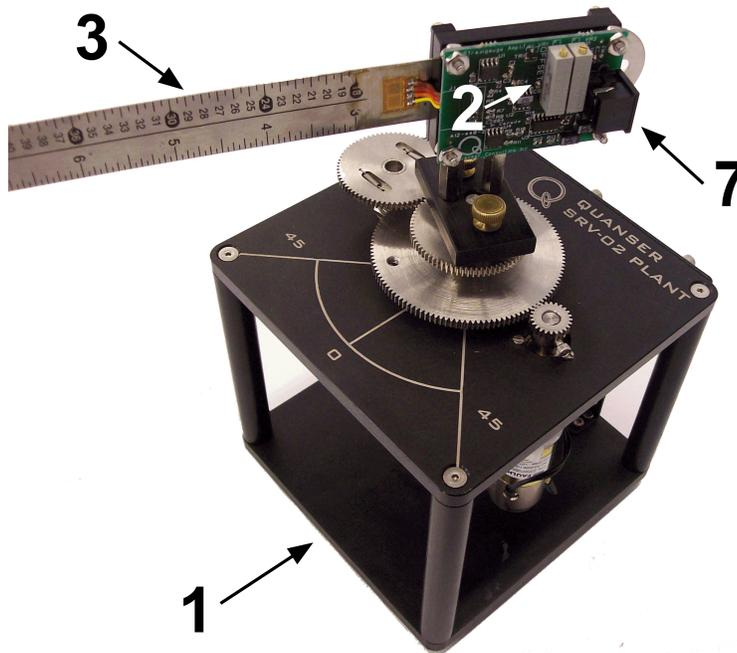
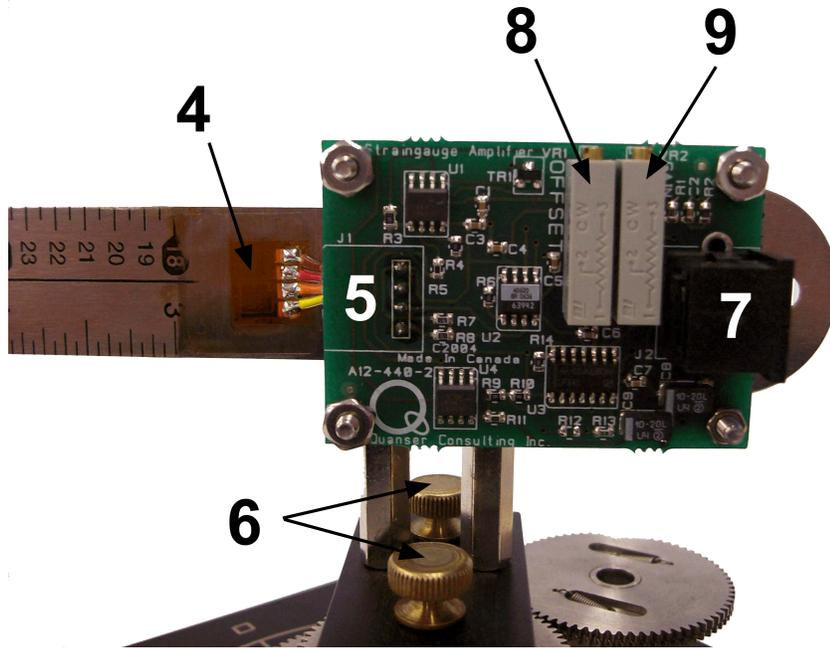

Figure 2.1: FLEXGAGE Coupled to SRV02
Figure 2.2: Strain Gauge Closeup
The main components of the rotary flexible link system are listed below in Table 2.1, and labeled in Figure 2.1 and Figure 2.2. Please use the ID # to locate each component in the figures below.
This component is depicted in Figure 2.1 with ID #2, and consists of the FLEXGAGE Link (ID #3 in Figure 2.2), the strain gauge, the strain gauge circuitry, and a sensor connector. As shown in Figure 2.2, the FLEXGAGE module simply mounts onto the SRV02 plant using two thumbscrews.
The strain gauge sensor is depicted in Figure 2.2 with ID #4, and produces an analog signal proportional to the deflection of the tip. There are two potentiometers available on the strain gauge circuitry. The OFFSET and GAIN potentiometers are depicted in Figure 2.2 by ID #'s 8 and 9 respectively and are used in the calibration process of the flexible link system. Section 4.3 of this document includes instructions on using these potentiometers to calibrate the system.
2. Place the FLEXGAGE module (ID #2 in Figure 2.1) on the load shaft of the SRV02 plant.
in Figure 2.2) and another to adjust the gain (ID #9 in Figure 2.2).